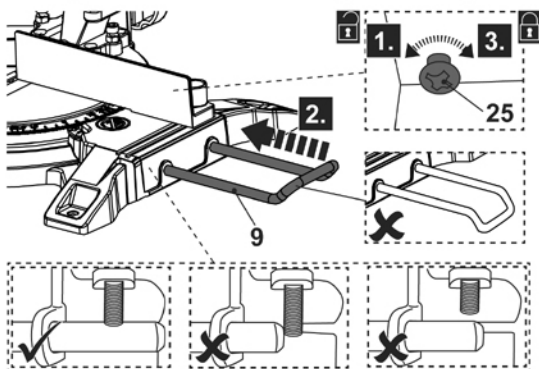

Fig. 2
- > Slightly loosen the extendable workpiece support fixing screw (25) with the provided tool (28) (Fig. 2, step 1). Do not remove it from the base.
- > Insert the rod ends of the extendable workpiece support (9) into the mounting holes. (step 2).
- > Tighten the fixing screw (25) to secure it afterward (step 3).